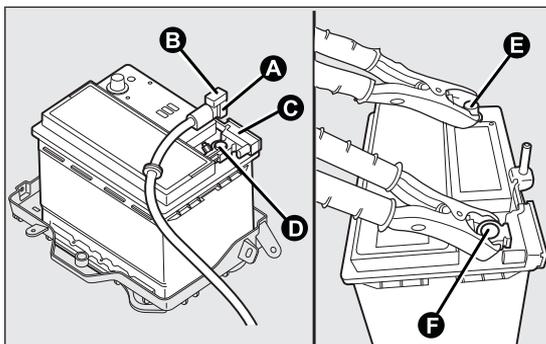

fig. 219
- connect the positive cable of the battery charger to the positive battery terminal E and the negative cable to sensor terminal F as in fig. 219;
- after having disconnected the charger, reconnect connector A to the sensor C as in fig. 219.